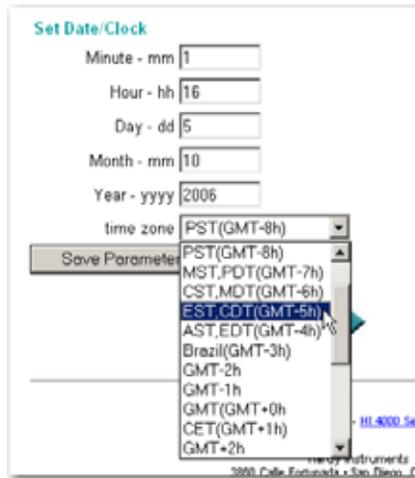

FIG. 213 DATE/TIME SETUP/SELECTING GREENWICH TIME
- Step 10. Click on the (Greenwich) time zone pull down list. (See Fig. 213)